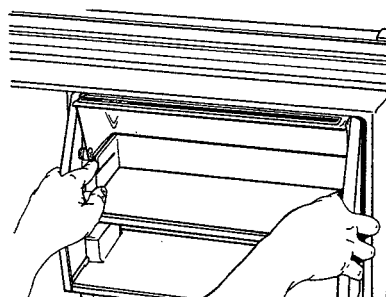

Figure 11.
- c. Push lock tabs in dairy compartment toward center with thumbs or forefingers. See Figure 11.